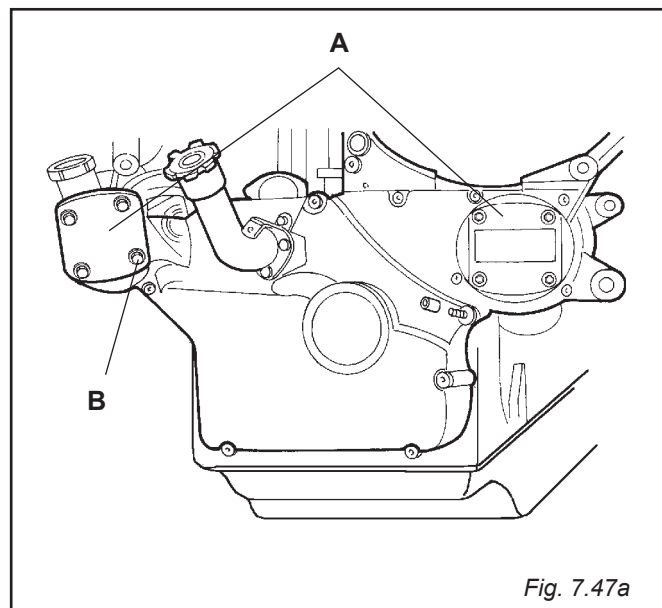

Fig. 7.47a
7.40 COVERS ON THE TIMING COVER (FIG. 7.47a)